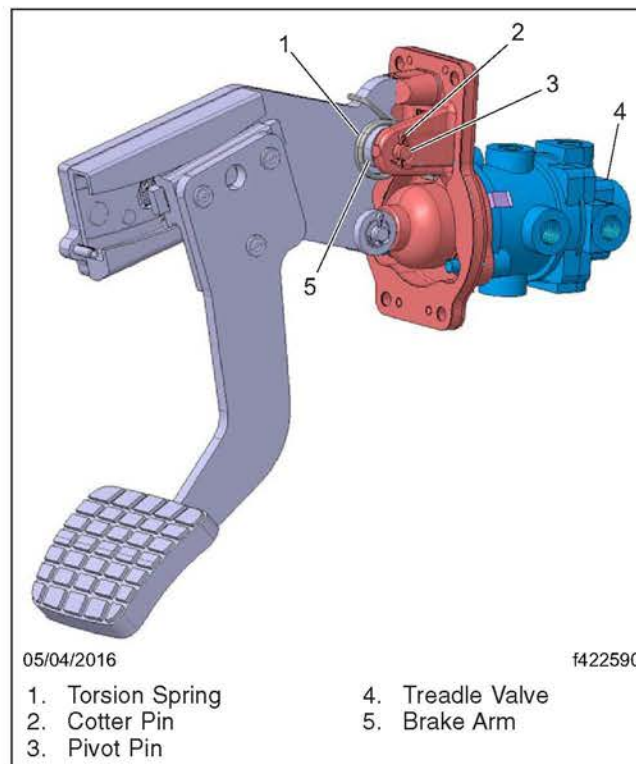

Fig. 1, Brake Pedal Assembly
5. Remove and discard the cotter pin. See Fig. 1, item 2.
7. Install the new torsion spring on the service brake pedal. See Fig. 1, item 1.